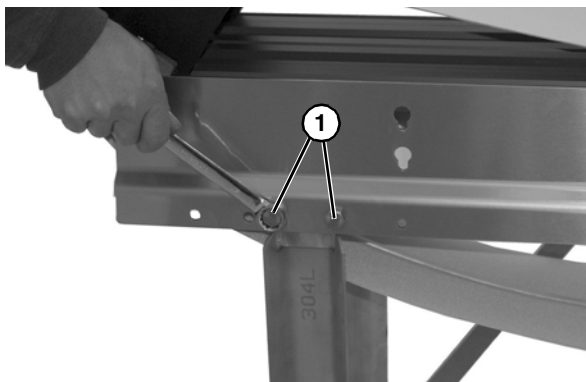

Figure 45
19. Remove two cap screws (**Figure 45, item 1**) holding stand to conveyor.